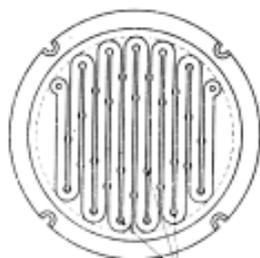

Fig. 8.1 - Heater Plate
**Heater Plate :** A porcelain plate with a groove is made. It houses the Nichrome wire in a coil form. The heater plate is made of porcelain. Porcelain withstands high temperature and remains as a good insulator even at high temperatures. The coiled Nichrome heating element is housed in the grooves. The grooves are designed with projections at various places, as shown in Fig. 8.1. The projections prevent the heating element from coming out of the grooves.